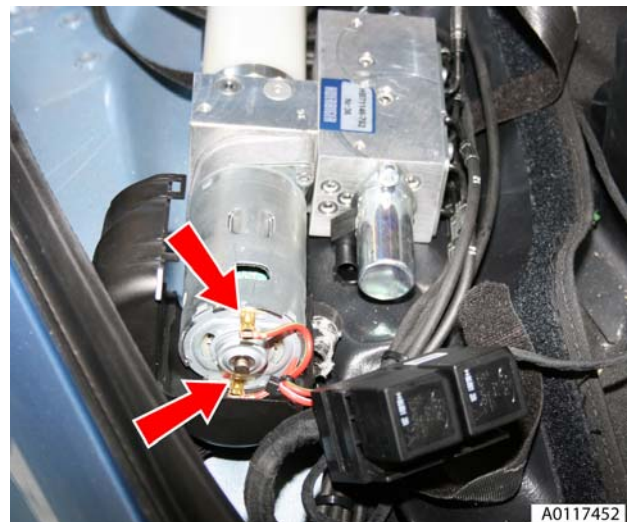

Figure 9
11. Disconnect pump lucar connectors (x2) (see Figure 9).